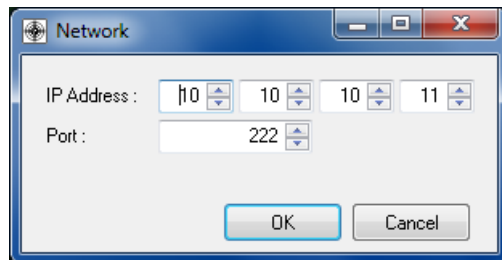

Fig. 5: Network settings
- Then run TR 2519 Control software. Activate access to other parts of menu Calibration by means of password KIWAG in Calibration > Activate Calibration. Then in calibration menu choose part Calibration > Network and fill the table in accord with table - see Fig. 5 (set IP Address to 10.10.10.11, Port to 222)